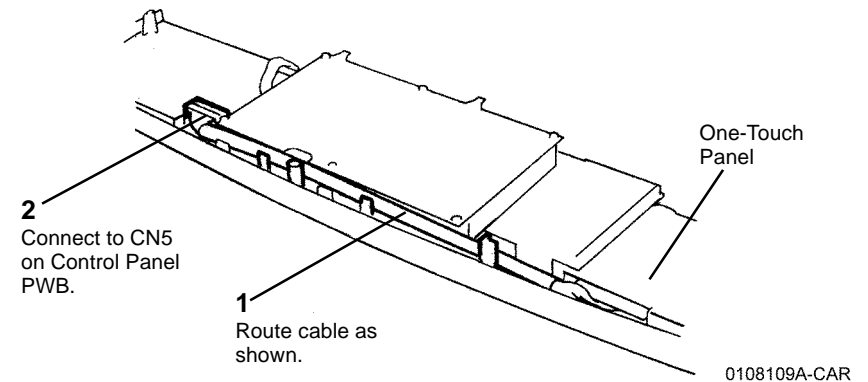

**Figure 9 Removing the Control Panel**
1. Remove the Control Panel (Figure 9).